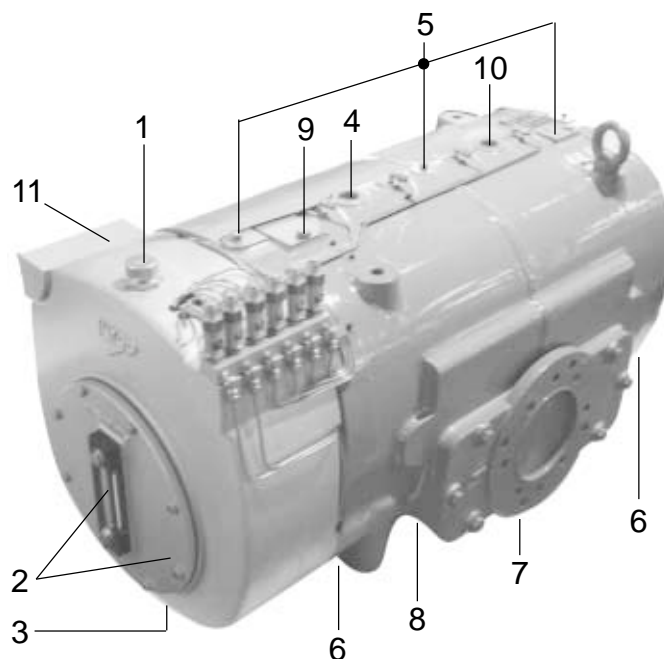
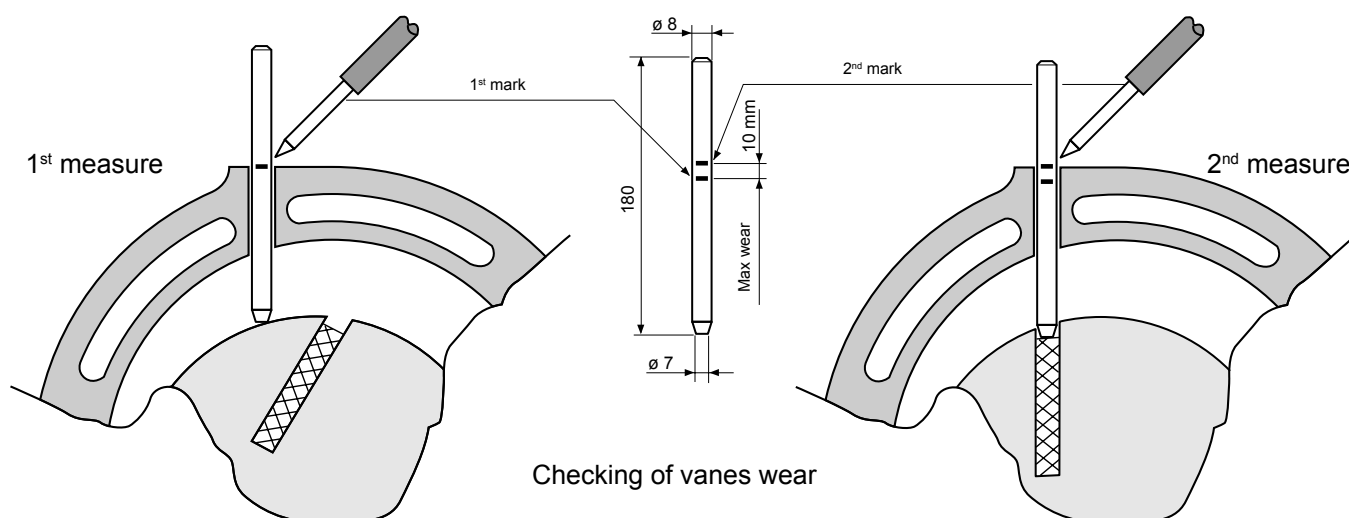

FIG. 4
FIG. 6
- 3.1 Fill the oil tank up to about 3 cm. below the filling tap - Pos. 1 - Fig. 4.
- 3.2 After releasing the vent taps Pos. 5 - Fig. 4 overflow the pump housing with the cooling media through the tap of Pos. 4 - Fig. 4.
- c) Water should overflow through taps of Pos. 5 - Fig. 4.
- a) Screw of the filling and draining taps of Pos. 1-3 - Fig. 4.
- b) Unscrew the 8 screws fixing the access flange of the oil tank Pos. 2 Fig. 4.
The wear of the vanes can be checked without taking apart the pump. Unscrew the plug Pos. 9 Fig. 4 and insert a rod of dia. 8 mm. and turn the shaft by hand. With the checking rod touching the outside diameter of the rotor, mark it a first time with a scribe (The rod is supplied with the pump). Continue turning the shaft till the checking rod falls inside a vane groove touching the vane. Mark the rod a second time. If the distance between the two marks exceeds 10 mm. the vanes must be replaced. (see Fig. 6). Once finished the checking procedure replace the plug Pos. 9.
- Drain the cooling liquid from the pump housing (Pos. 7-Fig. 4) and from the front flange Pos. 15.